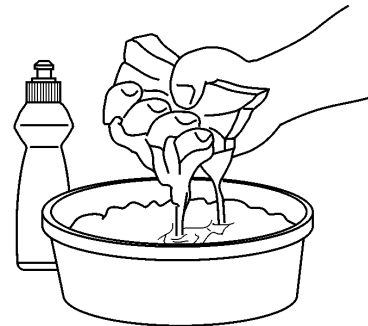

Figure 22
3. Wash air filter in laundry detergent or kerosene (Fig. 22).